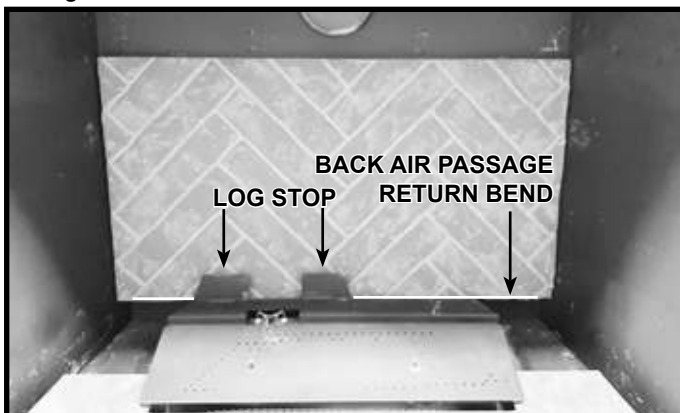

Figure 11.1 Install Back Refractory Panel
1. Locate the back refractory panel and turn it so the grout lines will align with the grout lines on the side panels when installed. Install the back refractory panel as shown in Figure 11.1. Carefully place it on the back air passage return bend behind the log stop.